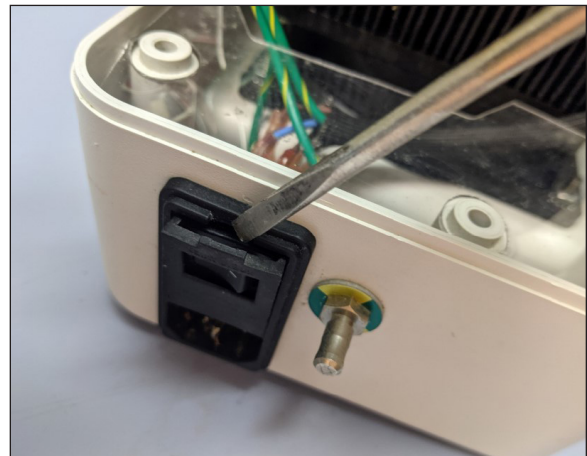

Figure 90 - Step 2 Open fuse door
2. Locate the slot at the top of the power inlet and use a screw driver to pry the fuse door open (Figure 90).